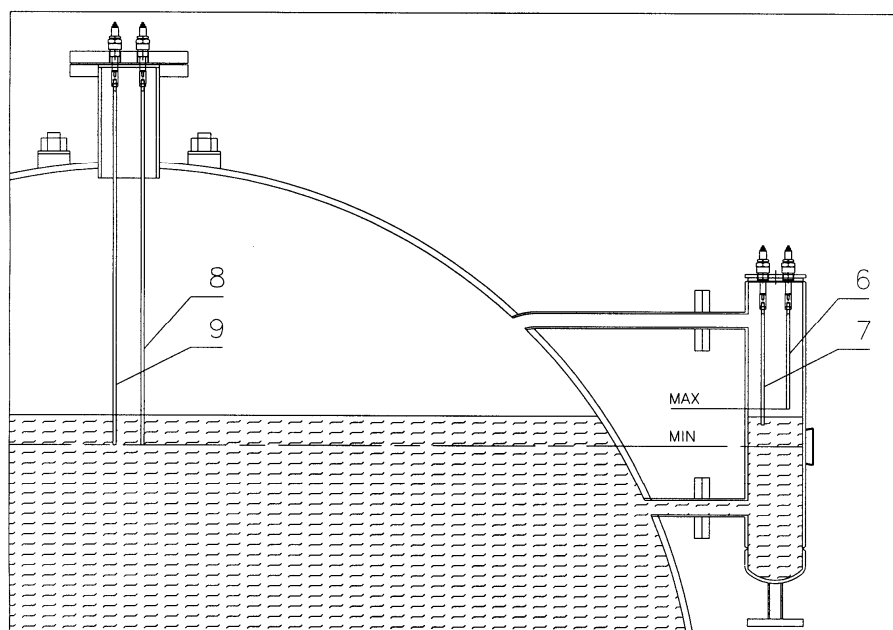

Fig. 6
2.2.2 Automatic level regulator and water level limits (Fig. 6)